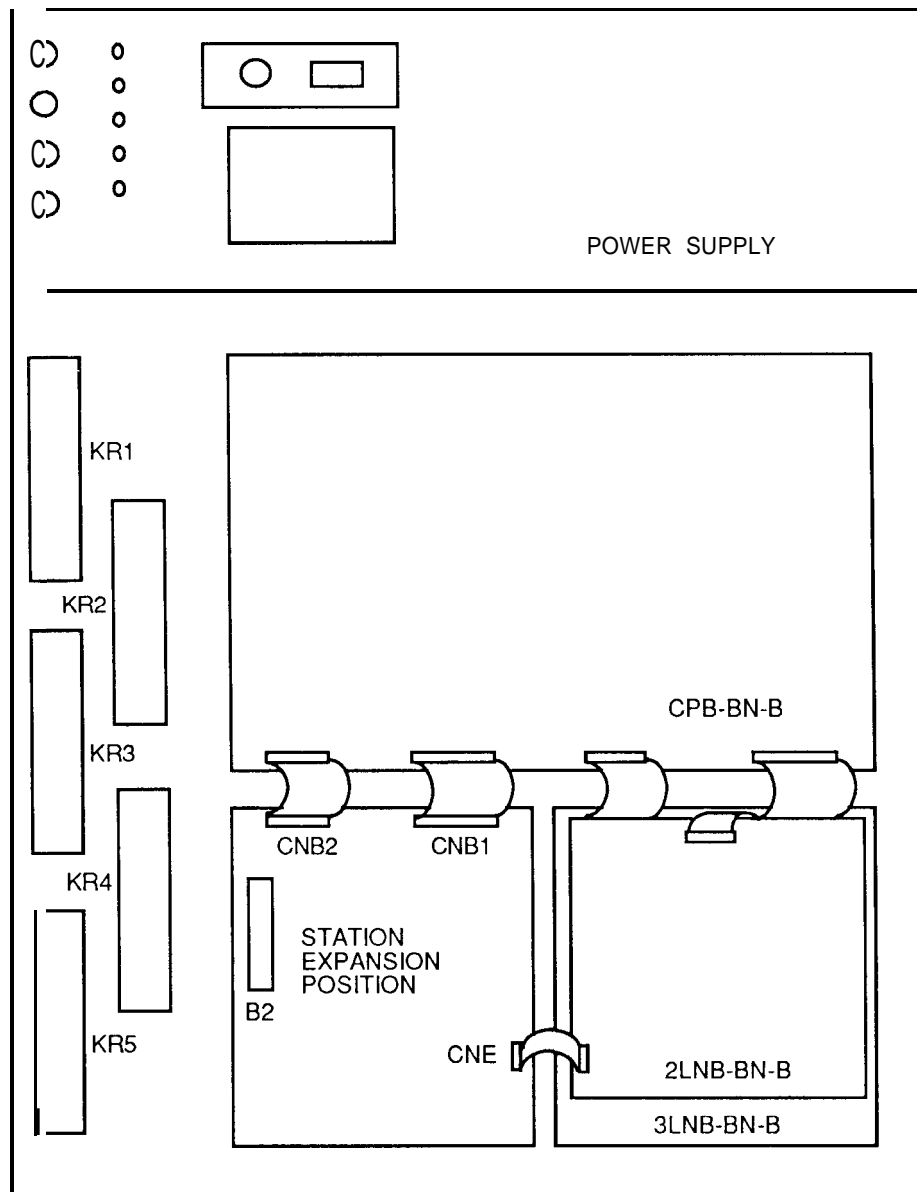

FIG. 4.2.5.6 STATION EXPANSION POSITION
- For 2WRGB-BN-B the screw provided should be used to fix the board to the rear panel. Ensure that the bush and collar provided are clipped onto the 2WRGB-BN-B to provide adequate insulation for the screw. Note the bush is pushed from the top of the board through the hole provided (See Figure 4.2.5.3(b)) and clips into the collar which is located under the board.